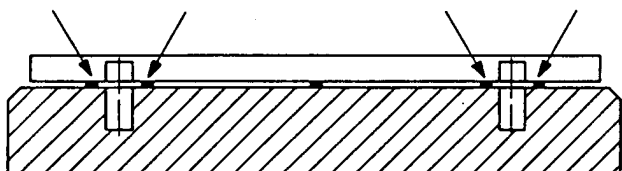

Fig.2: Foundation, baseplate and fitting the shims.
- B1.2-** Place the pumpunit on the concrete foundation and align by using a spirit level on the discharge flange. Make sure it is completely horizontal by using shims as shown on Fig.2.